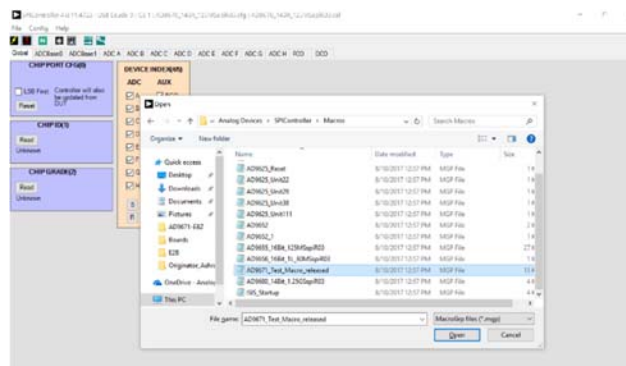

Figure 10. SPI Macro File Select Dialog Box
10. In the main **SPIController** window, click **File**, then click the **MacroGroup Open** command, and select the **AD9671_Test_Macro_released.mgp** file (see Figure 10).